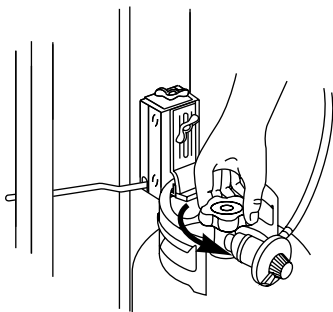

Figure 7
- e) Open the tank valve. Figure 7.